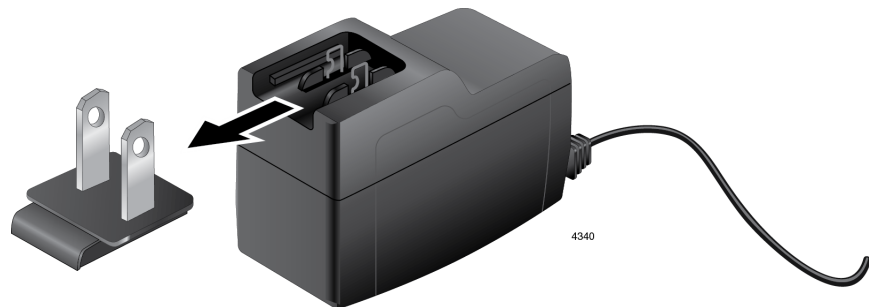

Figure 16. Removing the AC Plug from the AC Adapter
3. Remove the AC plug from the AC adapter as shown in Figure 16.